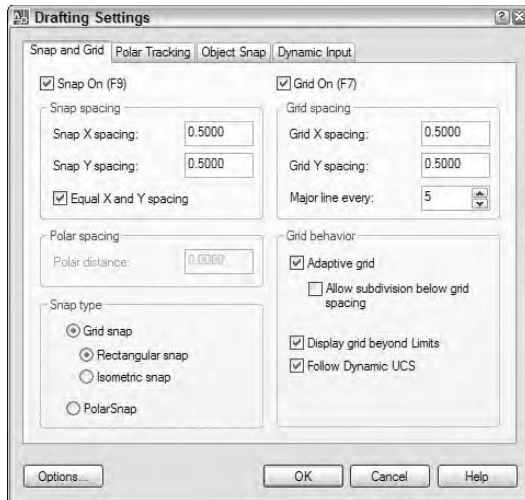

Figure 3-3:
The Snap and Grid tab of the Drafting Settings dialog box appears, as shown in Figure 3-3. (In AutoCAD LT, the dialog box might look slightly different.)
10. Change the values in the dialog box, as shown in Figure 3-3: Snap On checked, Grid On checked, Snap X Spacing and Snap Y Spacing set to 0.5, and Grid X Spacing and Grid Y Spacing set to 5.